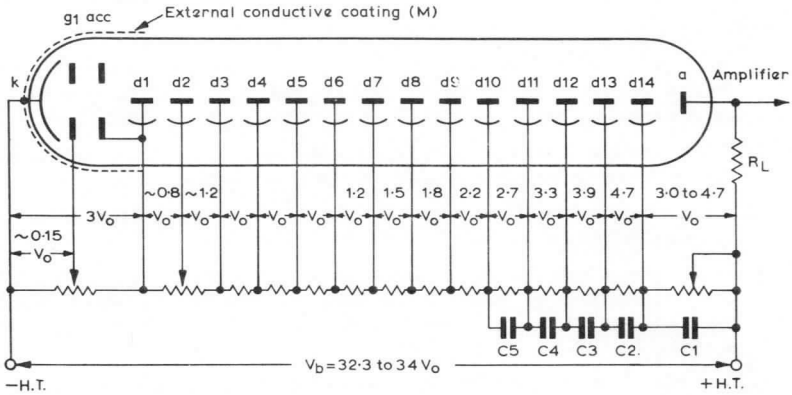

Fig. 2
VOLTAGE DIVIDER AS IN FIG. 2
7. Different types of voltage dividers are possible. The voltage divider in Fig.1 has the higher gain, while a higher anode current with better time characteristics can be obtained when the tube is connected as in Fig.2.